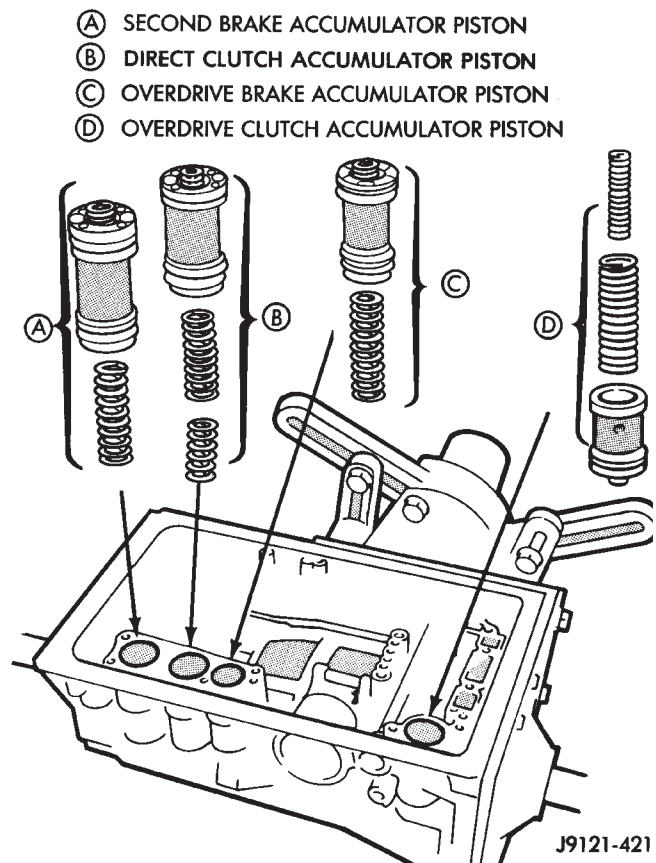

Fig. 57 Accumulator Piston And Spring Installation
(72) Lubricate and install new O-rings on accumulator pistons (Fig. 57).
(73) Assemble and install accumulator pistons and springs (Fig. 57).